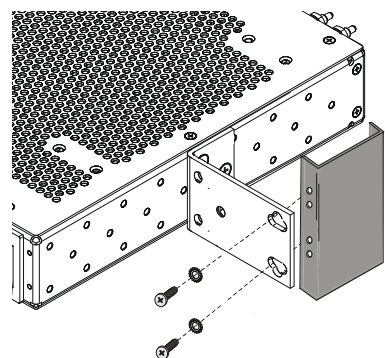

Figure 3 - Rack Mounting
2. Locate an unused rack position and mount panel using 4 screws and star washers provided, as shown in Figure 3. (It's best to mount the panel as high as possible on the rack.) Tighten the screws to 35 in.-lb (4.29 N•m).